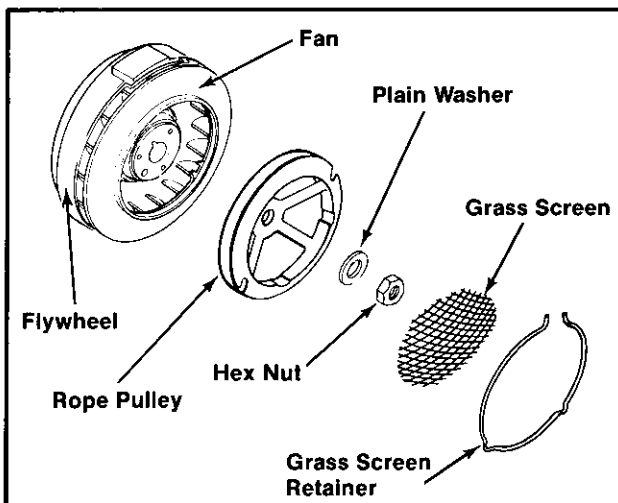

Figure 10A-21. Removing Grass Screen, Rope Pulley, And Flywheel - Rope Start Models.
2. Hold the flywheel with strap wrench and loosen hex nut (Refer to Figure 10A-19). Remove the hex nut, plain washer, and rope pulley.